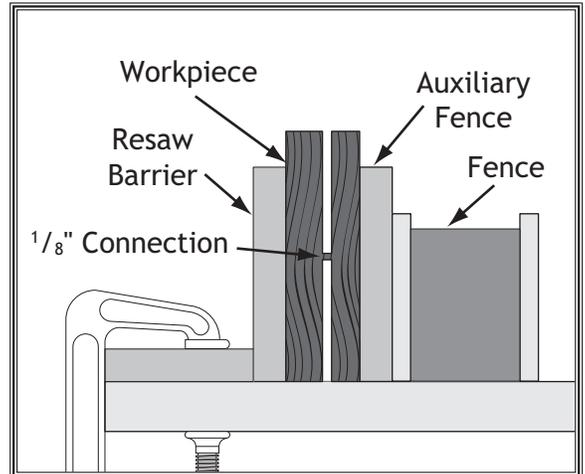

Figure 81. Ideal completed resaw operation.
10. Repeat **Steps 7-9** until blade is close to half the height of board to be resawn. The ideal completed resaw cut will leave an $\frac{1}{8}$ " connection when resawing is complete, as shown in **Figure 81**. Leaving an $\frac{1}{8}$ " connection will reduce risk of kickback.